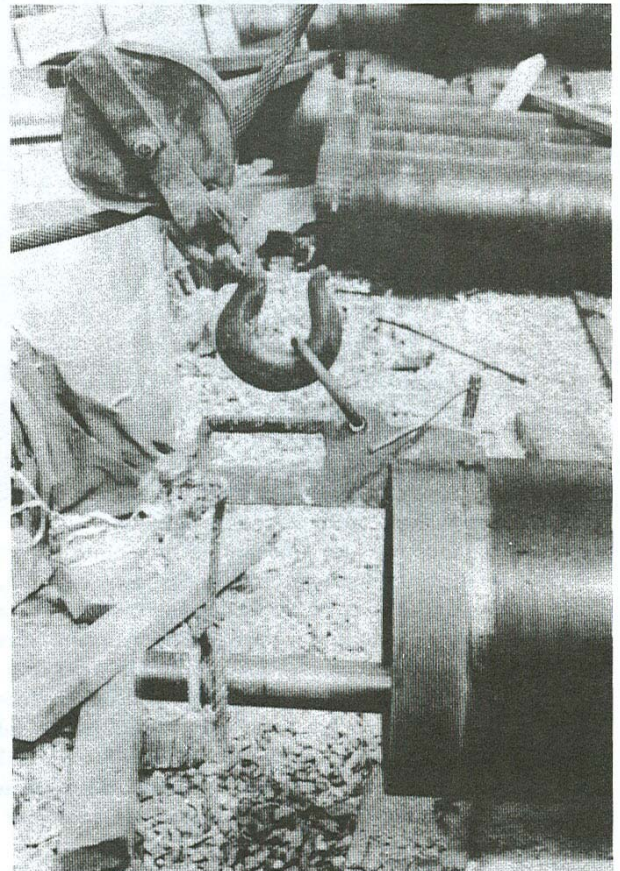

Fig. 7-5. Shaft Section Fastened To Lower End Of Column Section With Rope And Clamp. Dragline Hooked Onto Same Clamp.
Fasten the shaft section to the column section by tying with a suitable rope (called a "tail rope"). Take a clove or timer hitch about two feet up from the lower end of the column section; then tie a double half-hitch around the lower end of the shaft in the threaded area, to prevent slipping. The remainder of the rope will be used for manually maintaining tension on the knots during hoisting. If desired, the attachment to the column section may be made with a deep-throated clamp. (See Fig. 7-5.) Take care that the clamp screw does not bear against the threads. The same clamp may be used to attach the dragline. (See below.)
D. When hoisting the column section, the lower end should be guided by a dragline which is pulled by the hoist. (See Fig. 7-6.) A traveling block for the dragline may be clamped to the lower end of the column section. (See Fig. 7-5.) Take care that the clamp screw does not bear against the threads. If a power-operated dragline is not available, the lower end must be guided manually. Hoist the column section over the well.